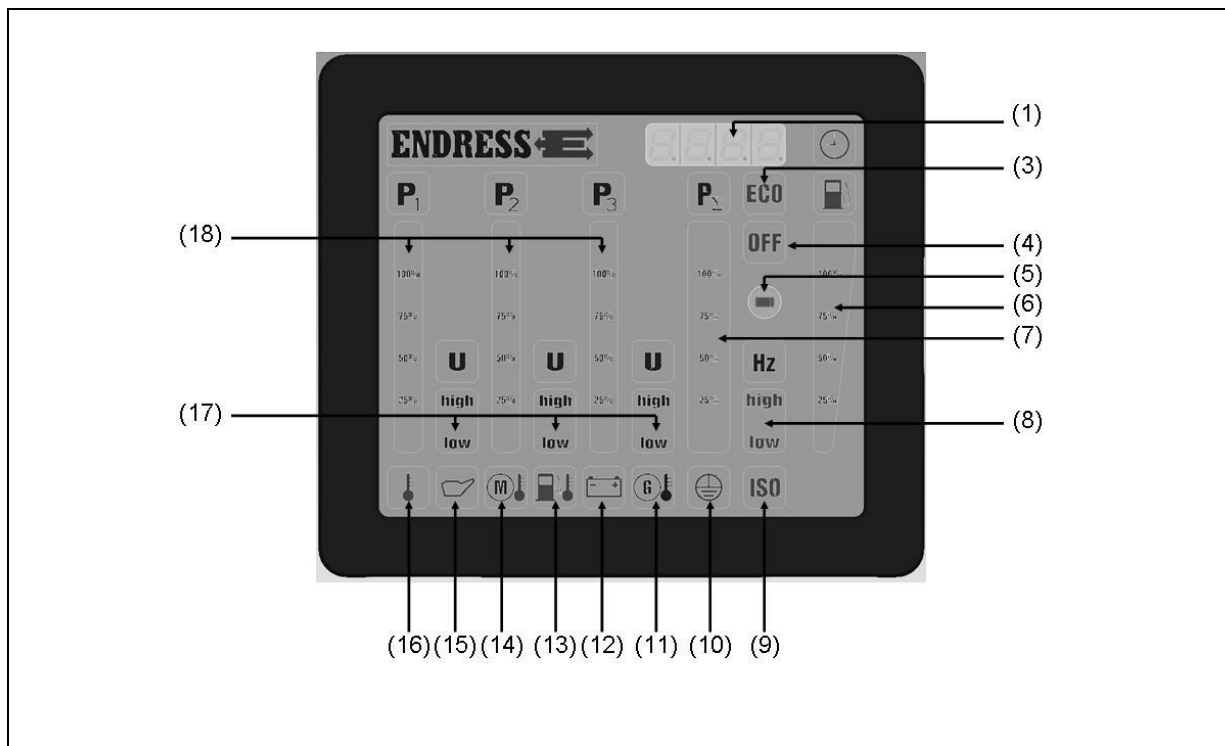

Figure 4-7: Multi-functional display
Operating hours: Displayed (see Figure 4-7-(1)) when the generator starts or is activated for 30 seconds when the START / STOP switch is turned to the "Operate" position.
Ambient temperature: If the display is red (see Figure 4-7-(16)) whilst the generator is running then the temperature is too high and the generator must be switched off.
- Oil pressure:** If the display (*see Figure 4-7-(15)*) lights up red whilst the generator is running then the oil pressure is too low and the generator switches automatically or the buzzer sounds, this can be acknowledged using the acknowledgement button.
- Engine temperature:** If the display is red (*see Figure 4-7-(14)*) whilst the generator is running then the engine temperature is too high and the generator must be switched off.
- Fuel temperature:** If the display is red (*see Figure 4-7-(13)*) whilst the generator is running then the engine temperature is too high and the generator must be switched off.
- Battery charge check:** If the display glows red (*see Figure 4-7-(12)*) then the generator's recharging function is not working.
- Insulation monitoring:** If the display lights up red (*see Figure 4-7-(9)*) or if the buzzer sounds then there is an insulation fault present. (see Chapter 5 Insulation monitoring).
- Protective earthing conductor test:** If the display glows green (*see Figure 4-7-(10)*) during the protective earth lead test (see chapter 0 Protective earth lead test), the protective earth leads for the attached devices are OK. If the protective earth conductor function is not available, the display remains blank.
The display (see Figure 4-7-(10)) gives a rough indication of the contents of tank.
Frequency: If the display glows green (see Figure 4-7-(8)), the frequency is within the correct range (47.5–52.5 Hz).
L1, L2 & L3 phases: The single L1 to L3 phases (see Figure 4-7-(18)) are displayed separately:
Voltage (U) (see Figure 4-7-(17)):
Load (P) (see Figure 4-7-(18)):
Relative load indicator: Load (P_{Σ}) (see Figure 4-7-(7))
If the “OFF” symbol glows red (see Figure 4-7-(4)) and the buzzer sounds, the EMERGENCY OFF button has been
- ✓ The displayed symbol (see Fig. 4.7-(9)) indicates the result, the buzzer also sounds for insulation monitoring with this and it can be acknowledged over the acknowledgement button (see Fig. 4--(2)):
- ✓ The displayed symbol (see Figure 4-7-(9)) indicates the result: